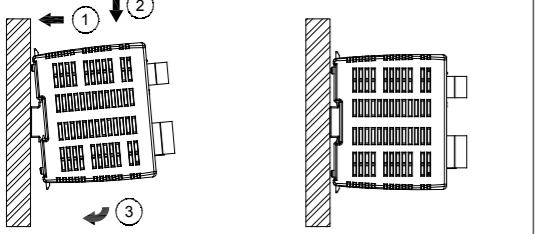

Figure 2
4. Mounting (Fig. 2)
Snap on the DIN rail as shown in Fig. 2: